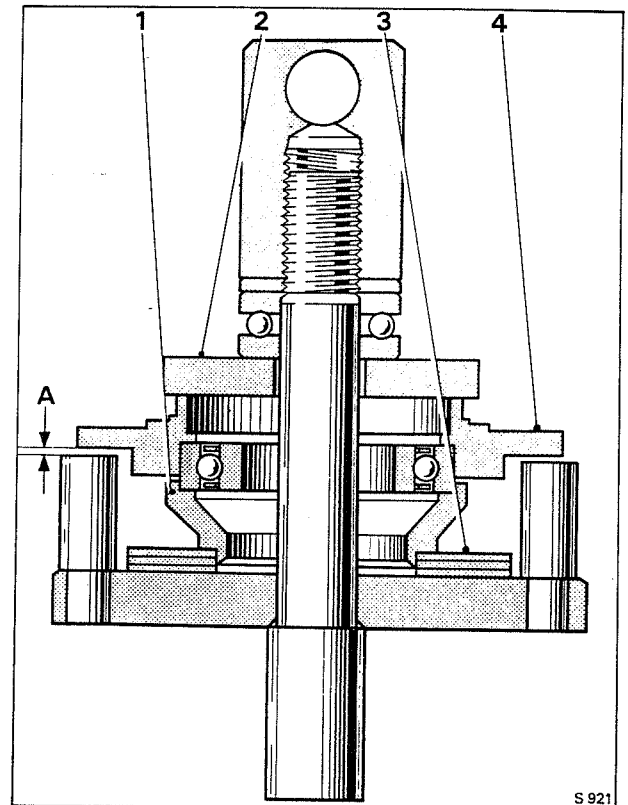

Fig. J10 Belleville washer setting
23. Place the housing, distance piece and belleville washers in the checking jig (RH 7861) and tighten the jig end pieces until the belleville washers are flat (see Fig. J10).